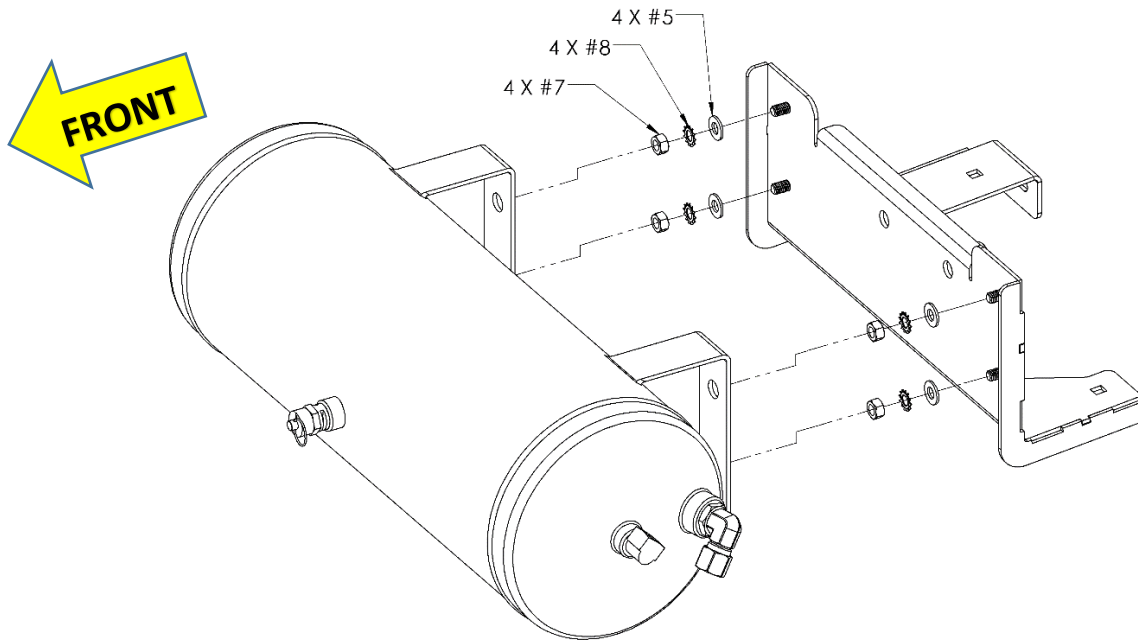

Figure 16 – Air Tank Installation onto TUNDRA-201; Exploded View
10.4.5. Lift Air Tank into position onto Air Tank Bracket studs and attach with hardware #5, #7, & #8, as shown in Figure 16 below. Hand tighten.